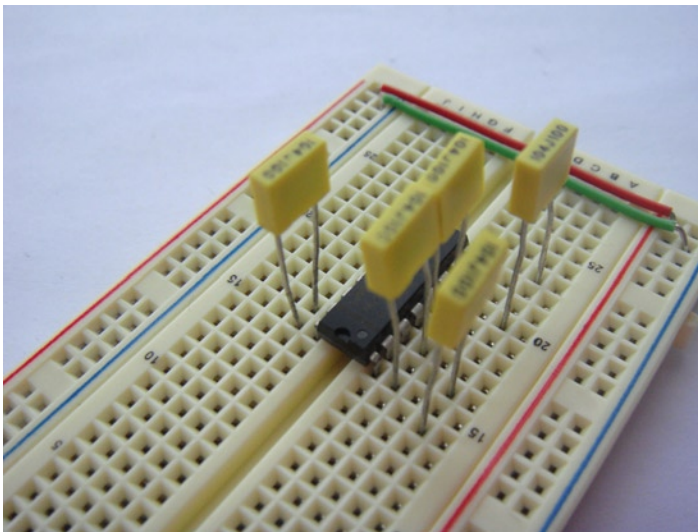

Figure 9-5. *The installed capacitors*
3. Lastly install a capacitor between pins 15 and 16. This will ensure you have a stable voltage input similar to the C6 capacitor on the Raspberry Pi. You can see the installed capacitors in Figure 9-5.